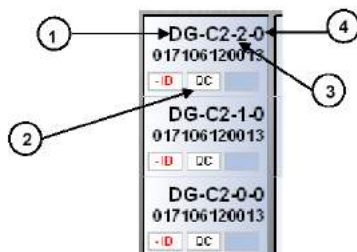

Figure 11.2. Window Displaying Control Order on the Worksheet
- Keep the finger on the box with a sample ID. The program displays a drop-down menu with different options. Select the **Control (QC)** option. A **Control (QC) Order** window appears. Here, select the following information:
When **Accept** button is pressed, a Control (QC) order will automatically be placed in the **Worksheet** (Figure 11.2) for all tests for which the selected Control lot has ranges defined in its **Values Table**.
- Alternatively, keeping the finger pressing on a Test Box will cause the program to display another drop-down menu for selecting the **Control (QC)** option. In the **Control (QC) Order** window, select the **Q Analyzer**, the **Control** and the **Lot** as described in the previous point. The program will only show the Control lots that have values entered for this test.
When **Accept** button is pressed, a Control (QC) order will automatically be placed in the **Worksheet** (Figure 11.2) for this test.